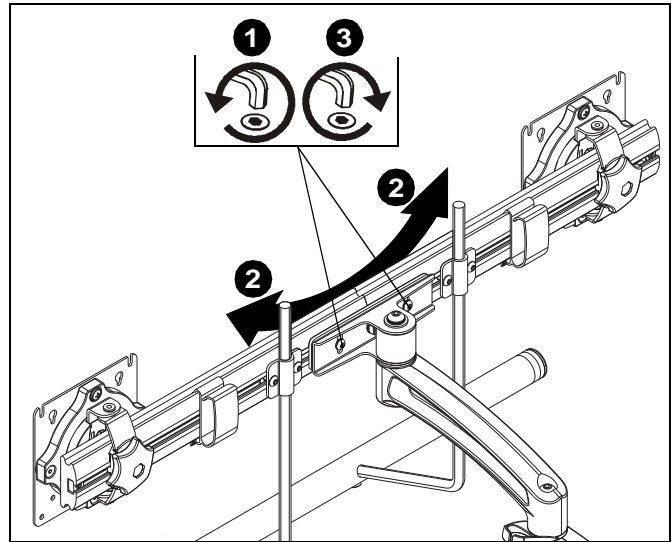

Figure 14
1. Loosen roll adjustment screws on back of array bracket. (See Figure 14)
2. Adjust roll of array bar as desired. (See Figure 14)
3. Tighten roll adjustment screws on back of array bracket. (See Figure 14)